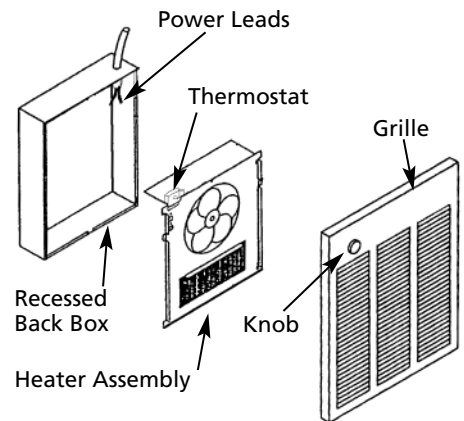

Figure 5 – Heater Assembly and Grille
After back box is completely installed and no further construction dirt is expected, clean debris from back box, remove heater assembly from its carton, then refer to Figure 5 and proceed as follows:
2. Remove the grille (Figure 5).